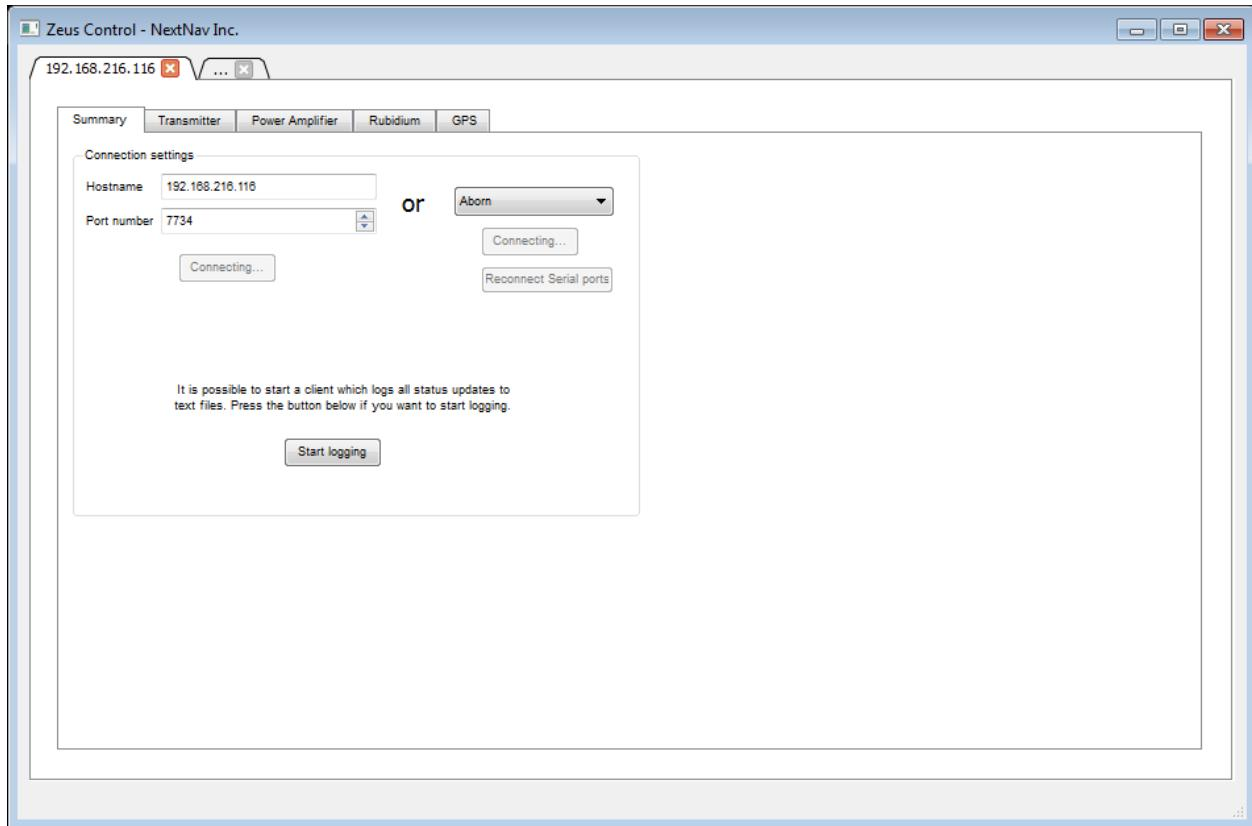

Figure 13: GUI Summary Tab
2. The above step will launch a window as shown in Figure 13. In the 'Summary' tab, enter the IP of the beacon provided by the field technician and port number as '7734'.